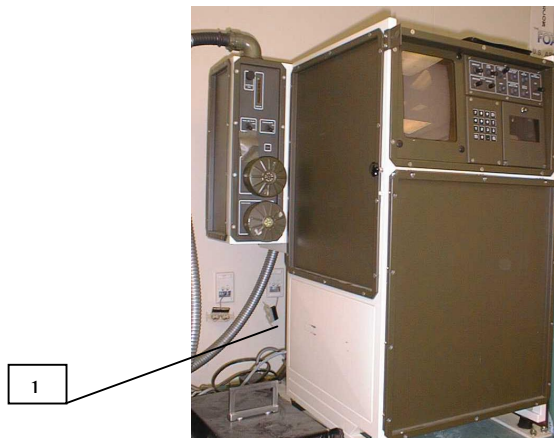

Fig.4 Switch off MM1
(1) Switch off MM1. The switch is at the rear left of the MM1 (Fig 4 No.1).
(1) Switch on the MM1 (Fig.4 No.1). Wait for the screen to come up (Fig.17).
- (7) Switch off MM1 (Fig.4 No.1).